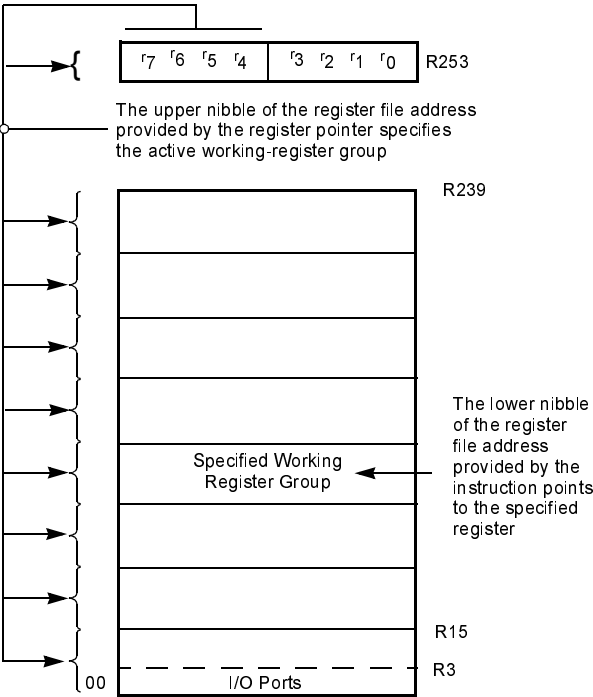

Figure 17. Register Pointer—Detail
**Counter/Timers.** There are two 8-bit programmable counter/timers (T0 and T1), each driven by its own 6-bit programmable prescaler. The T1 prescaler is driven by internal or external clock sources; however, the T0 prescaler is driven by the internal clock only (Figure 17).